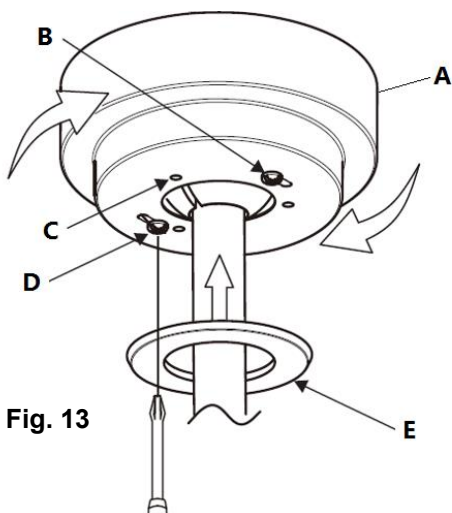

Fig. 13
INSTALLING THE CANOPY (Fig. 13)
2. Slide the canopy (A) up to the mounting bracket and place the key hole slots over the mounting screw (D) on the mounting bracket.
3. Rotate the canopy (A) until the screw head (B) locks in place at the narrow section of the key hole. See Fig. 13.
4. Secure the canopy by tightening the two mounting screws (D). Now, attach the canopy cover (E) to canopy and secure it by pushing the lugs into the holes (C).